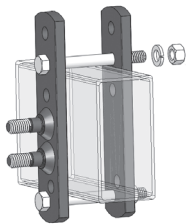

Figure 10
2. Insert the second $\frac{3}{8}$ " x $3\text{-}1\frac{1}{2}$ " bolt through the open hole closest to the top of the trailer frame. (Figure 10)